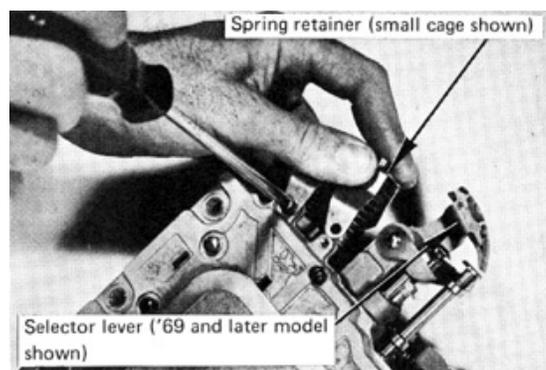

FIGURE 13
Now remove the pressure regulator spring retainer located next to the selector lever. (See Fig. 13.)
CAUTION: Hold your hand against the retainer while removing the screw (see Fig. 13) so the large pressure regulator spring does not fly out. Remove the retainer and adjustment plate, pressure regulator spring and converter valve spring and set them aside. Remove the regulator valve and converter valve and lay them next to their respective springs.
STEP 16. Governor Plug End Plate: (See Fig.17.) Remove five short screws that hold the governor plug end plate in place. This will allow you to remove the 1-2 shift valve governor plug, 2-3 shift valve governor plug, shuttle valve throttle plug and shuttle valve spring. Set these valves aside and keep the spring with the shuttle valve throttle plug so it won't be confused. Do not rotate selector lever (see Fig. 13) and lose detent ball and spring. Turn casting over and remove four or six retaining screws holding top plate. Remove top plate for ease of cleaning casting following drilling operation.
Align transfer plate assembly over casting and hold the two halves together with your hand. Install 14 screws in place finger tight. (Note: Three long screws are for the filter.) Install pressure regulator spring and converter valve spring in place. (See Fig. 17.) Insert pressure regulator adjusting plate into place in retaining cage so Allen head adjusting end extends through hole in retaining cage. Adjusting plate is a close fit when properly installed inside the retaining cage. Engage pressure regulator spring with adjusting plate and engage converter valve spring with retaining prong in cage. Hold cage against valve body, align screw holes and install 3 short screws finger tight. (See Fig. 13.)